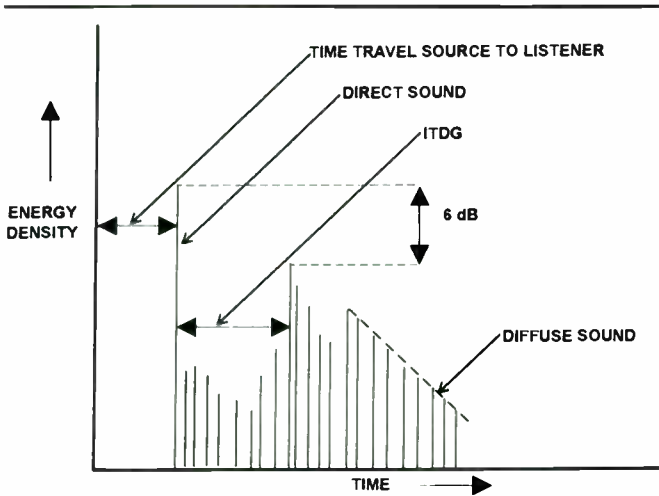

FIGURE 4: Initial Time Delay Gap (ITDG) for small rooms.
**INITIAL TIME DELAY GAP.** The ITDG is an important parameter that can have a dramatic effect on a room's sonic character.5 It is defined as the time interval between the arrival of direct sound at the listener's ears and the arrival of the first significant reflection. Since in small rooms there is no reverberant field in the classic sense, the first significant reflection in this instance is defined as the first reflection that is within 6dB of the highest reflection level. *Figure 4* is a simplified graphic representation of the ITDG for small rooms.